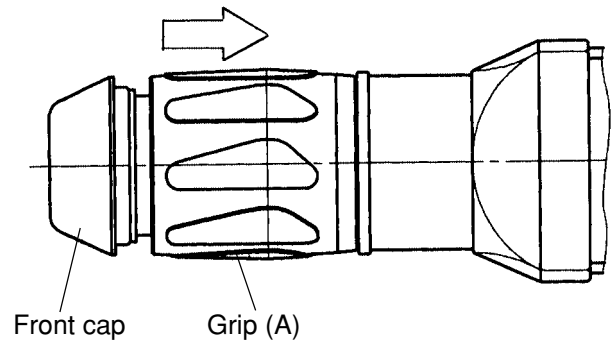

Fig. 11
- Retainer disassembly (See Figs. 11 and 12.)
Pull Grip (A) **[4]** fully in the arrow direction as shown in Fig. 11 and remove the Front Cap **[1]** (since the Front Cap **[1]** is made of rubber and engaged firmly with Sleeve (C) **[3]**, pull it strongly to remove).